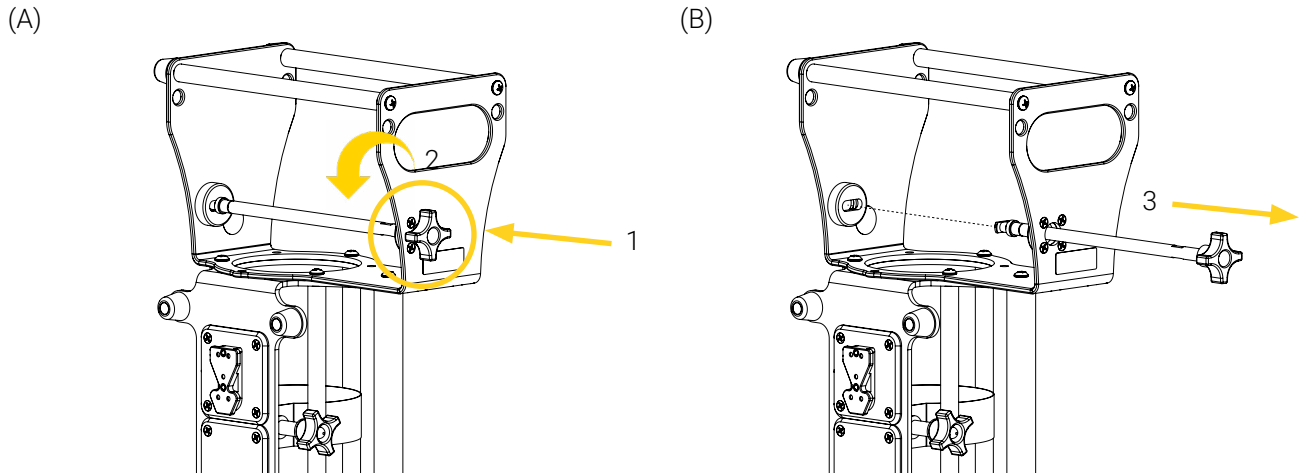

Figure 8: Unlocking the mounting bracket
4. Push on and hold down the knob of the locking rod, rotate it a $\frac{1}{4}$ turn counterclockwise to unlock the mounting bracket (Figure 8 A), then pull out the rod (Figure 8 B).